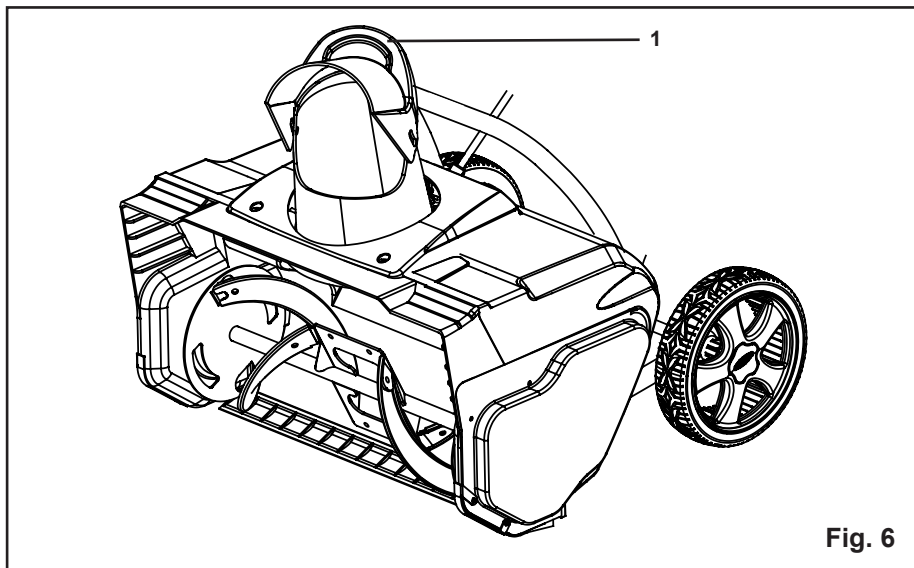

Fig. 6
OPERATING TIPS (See Figure 6)
The deflector handle (1) that is located on the top of the discharge chute controls the height of the snow stream (Fig. 6).